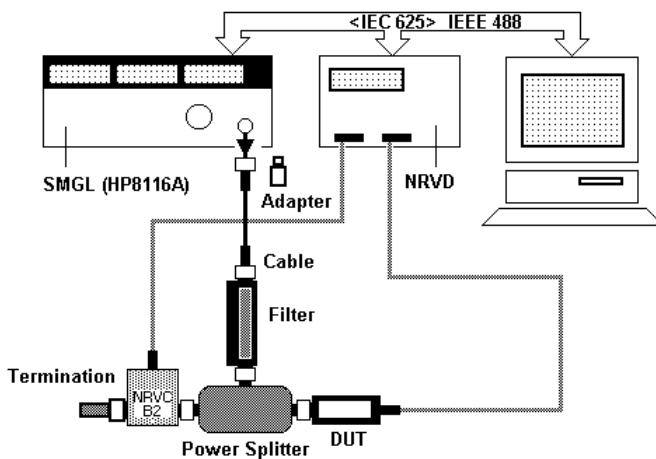

Fig. 6-34
- Prepare the test setup for checking the linearity as shown in Fig. 6-34